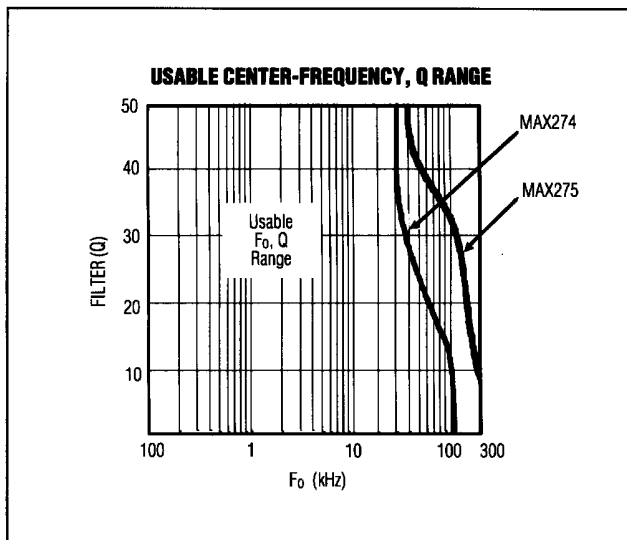

Figure 4. Usable F_o, Q Range. See *Translating F_o/Q Pairs into Hardware (Resistor Selection)*.
1. Check all F_o/Q pairs for realizability. The MAX274/MAX275 have limits on which F_o/Q values can be implemented. These limits are bound by finite amplifier gain-bandwidth and amplifier load drive capability (which limit the highest frequency F_o /highest Q_s) as well as amplifier noise pickup and susceptibility to errors caused by stray capacitance (which sets a low-frequency limit on the poles). Refer to Figure 4 to be sure each F_o/Q pair is within the "realizable" portion of the graph. If filter Q_s are too high, reduce them by increasing the filter order (that is, increase the number of poles in the overall filter).
High-frequency F_o s (up to 400kHz) and high Q s outside of Figure 4's limits are also realizable, but F_o and Q will deviate significantly from the ideal. Adjust resistor values by prototyping.